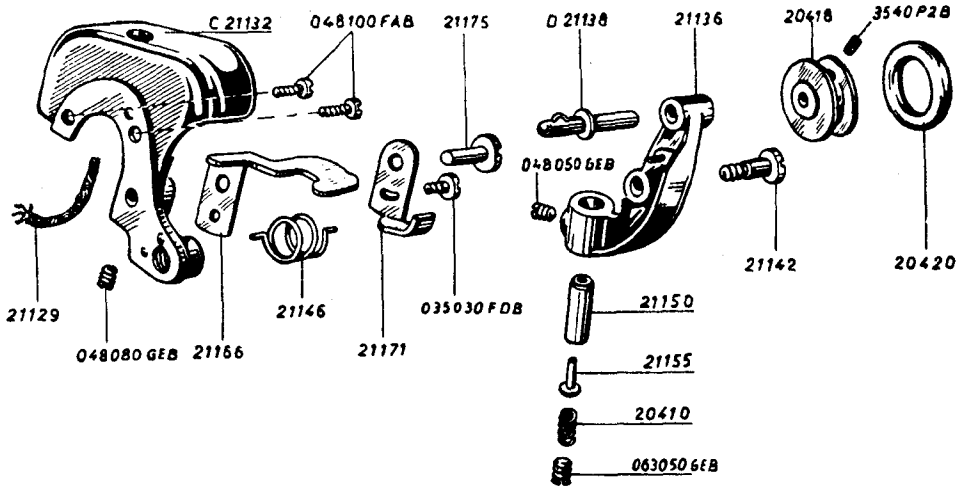

Fig. 55
1. The rubber ring No. 20420 of the bobbin winder (see Fig. 55) must, in its working position, touch the rim of the balance wheel with just sufficient pressure so as to be taken along by the revolving balance wheel. The rubber ring will thus also cause rotation of the bobbin winder pulley and the bobbin winder spindle No. D 21138 which are firmly assembled with each other.
If, after the balance wheel has been taken off, the removal of the complete bobbin winder is required, turn the balance disc bushing No. D 20395 and bring the hole in the balance disc portion successively in line with the screws No. 048100 FAB (see Fig. 55) by means of which the bobbin winder frame No. C 21132 (see Fig. 55) is attached to the arm of the machine. By inserting a screw driver through the aforementioned hole in the balance disc bushing, these screws can be removed and the bobbin winder mechanism be taken off the machine. In the rare case when it becomes
To regulate the amount of thread to be wound on the bobbin, and to adjust the position of the bobbin winder pulley, it is necessary to change, as required, the angular position of the winder check plate No. 21171 in relation to the winder thread guide plate No. 21166 (see Fig. 55).